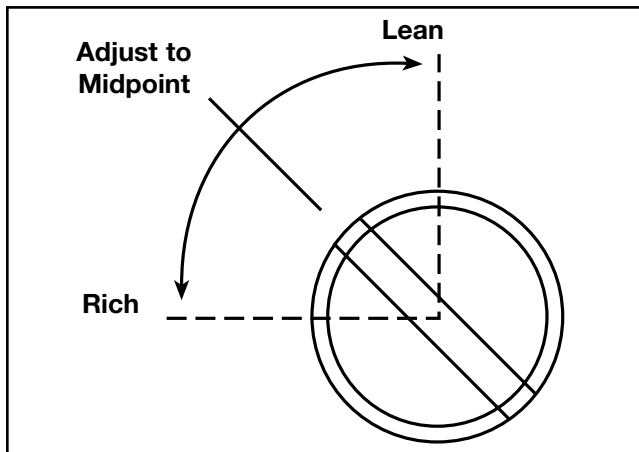

Fig. 41
- a. While squeezing the throttle trigger fully, set the high speed mixture needle at the optimum setting (Fig. 41). See "Definition of Optimum Setting" on page 21.
- a. Set the idle speed mixture needle at the optimum setting (Fig. 41). See "Definition of Optimum Setting".
3. Set the adjusting needle **midway** between the rich and lean settings, which is the highest engine speed (Fig. 41).